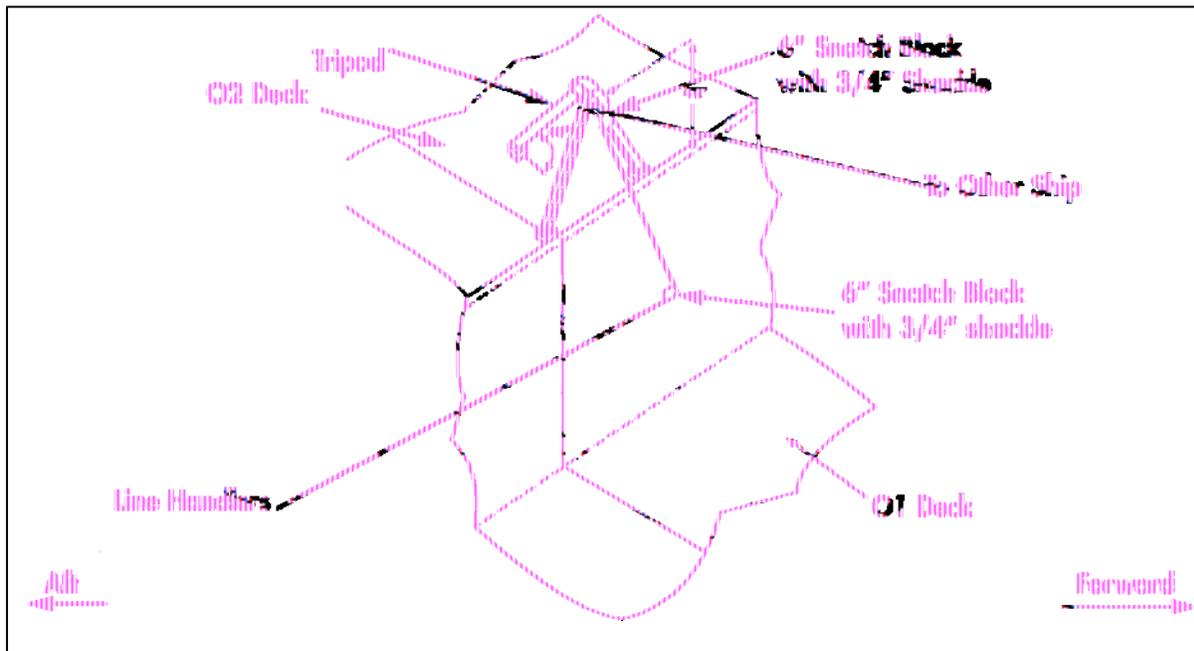

Figure 9.23-3 - Light Line Layout Starboard
- (1) The upper 6" snatch block is shackled to the light jackstay tripod on 02 Deck, and the lower 6" snatch block is shackled to the bulkhead padeye on 01 Deck at Station Alfa or Bravo.
- (2) The light line and distance line (if used) are normally fed directly from their storage cans but may be faked down fore and aft along the breezeway if desired.
- (3) If the light line transfer is to take place while fuelling or conducting a solids transfer, then the outboard end of the light line is to be lead aft to the appropriate station. It is then secured to the messenger. In this way, the transfer can take place as part of the passing of the gear for fuelling or heavy jackstay. [Fig. 9.23-3 Light Line]